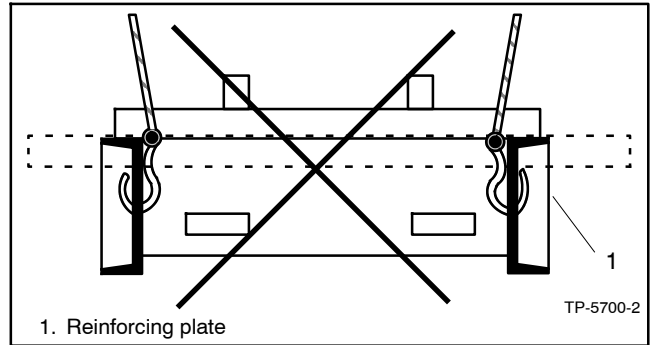

Figure 2-1 Improper Lifting Hook Placement (above 1000 kW)
- Generator sets typically above 1000 kW may have reinforcing plates on the skid. Do not attach lifting hooks to the reinforcing plate. See Figure 2-1.